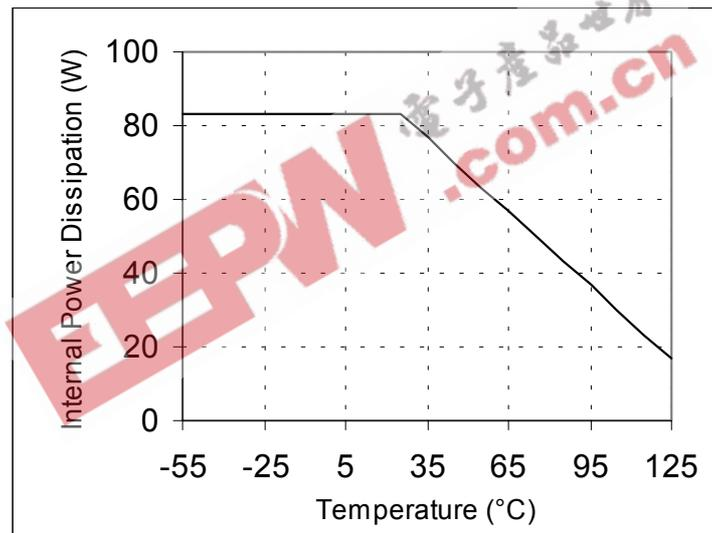

Figure 3. Maximum Average Power Dissipation vs. Case Temperature
- Case Temperature  $T_C = 25^\circ\text{C}$  (see Figure 3).